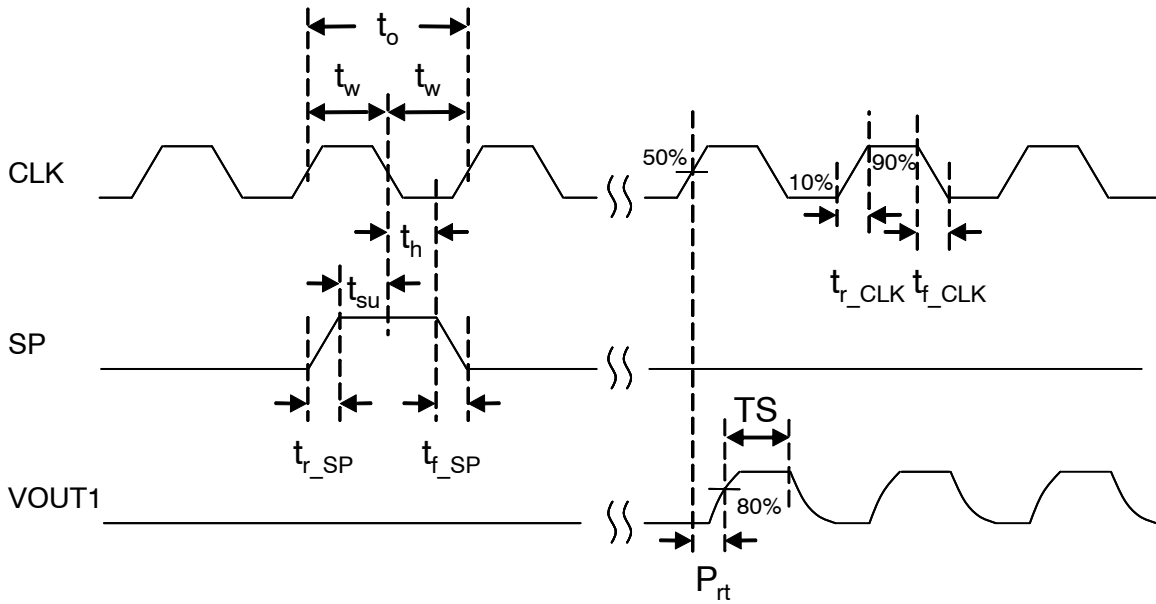
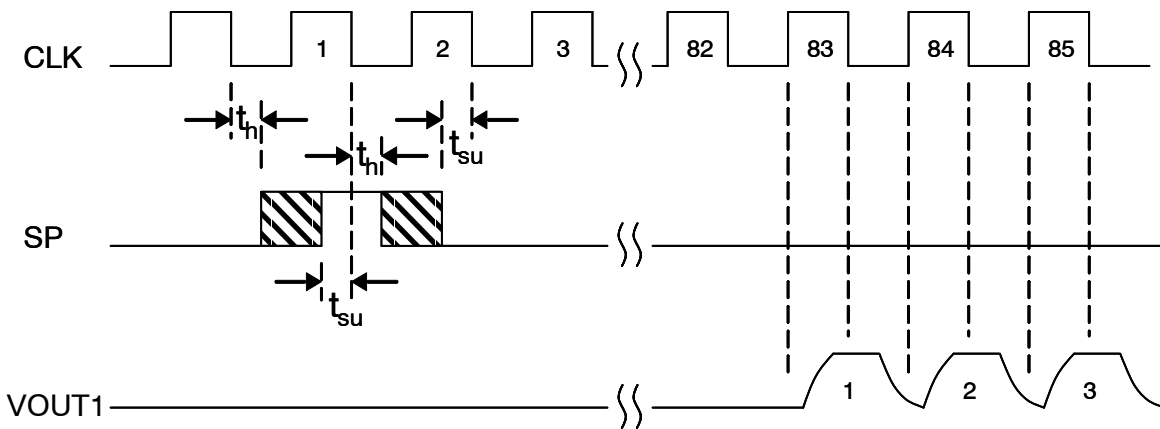

Figure 4. Rise and Fall Timing for 200/100 dpi Modes
Figure 5. Timing of SP to First Pixel Sensor for 200/100dpi Modes
2. Refer to Figures 4, 5 and 6 for more information on AC characteristics
Figure 4 and 5 detail the timing of the CLK, SP and VOUT signals in further detail, they have the same timing requirements for the 200 and 100 dpi modes. The rise and fall times are listed in Table 5. In Figure 5, note that clock 83 is the first active pixel, as the first 82 clocks produce dummy pixels (the output of the first 82 clocks should not be used for any purpose such as black level clamping).